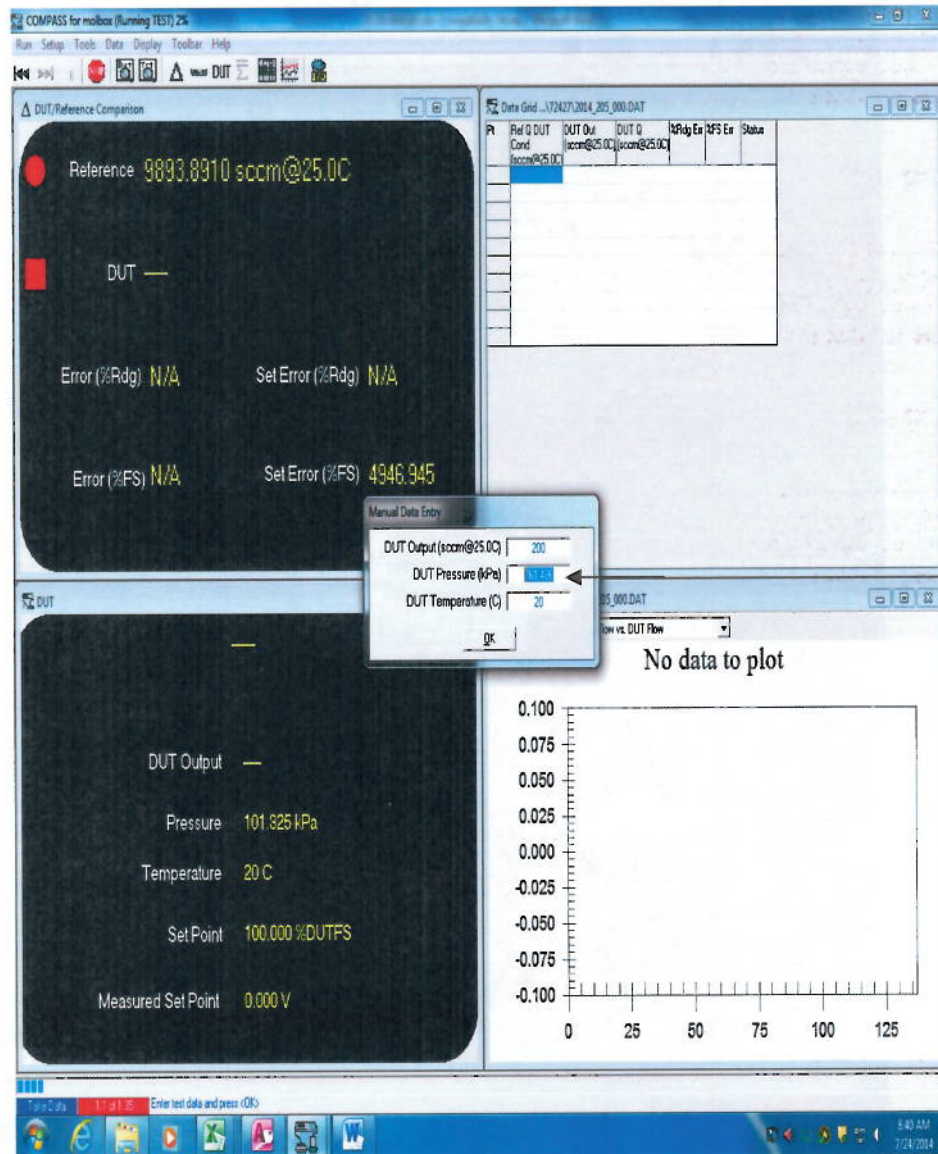

Figure 13
- 12.3.12 Enter the room pressure (located on the display of the Fluke PPC3 pressure calibrator located on the workbench against the east wall in the flow room) into the “DUT Pressure ” text box. See Figure 13.